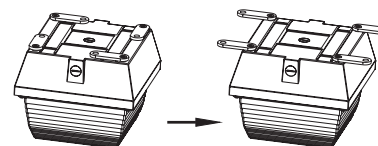

Figure 1
1. Rotate the four surface-mounted plates on the top of fixture to the needed direction. (Figure 1)